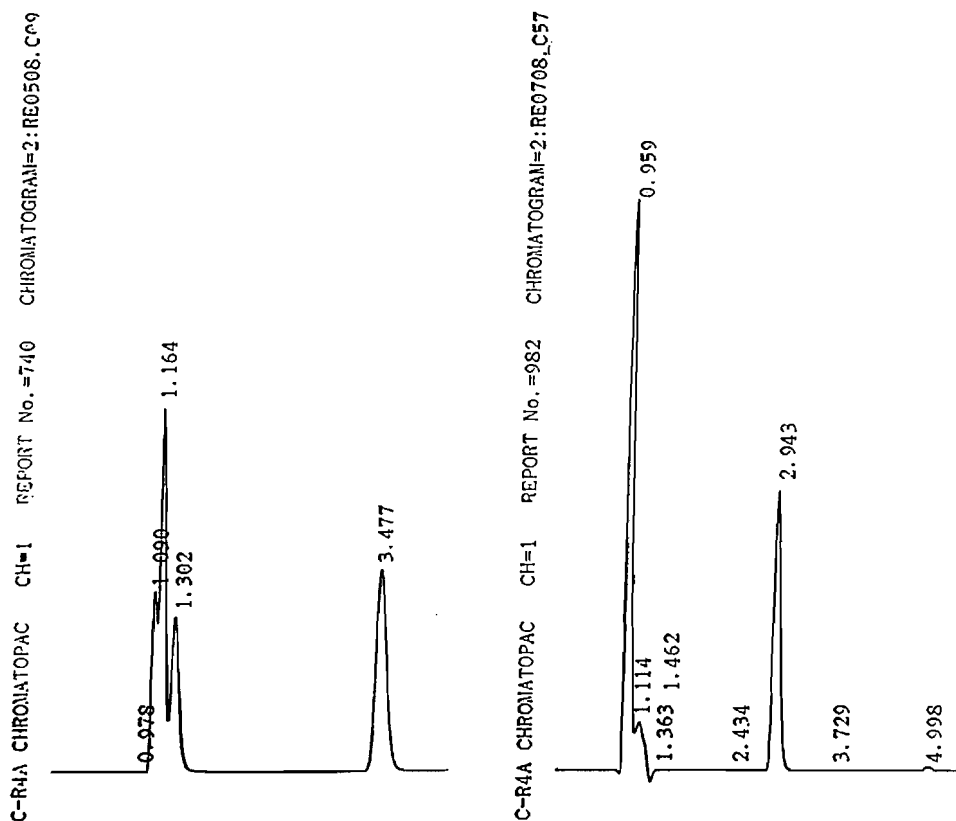
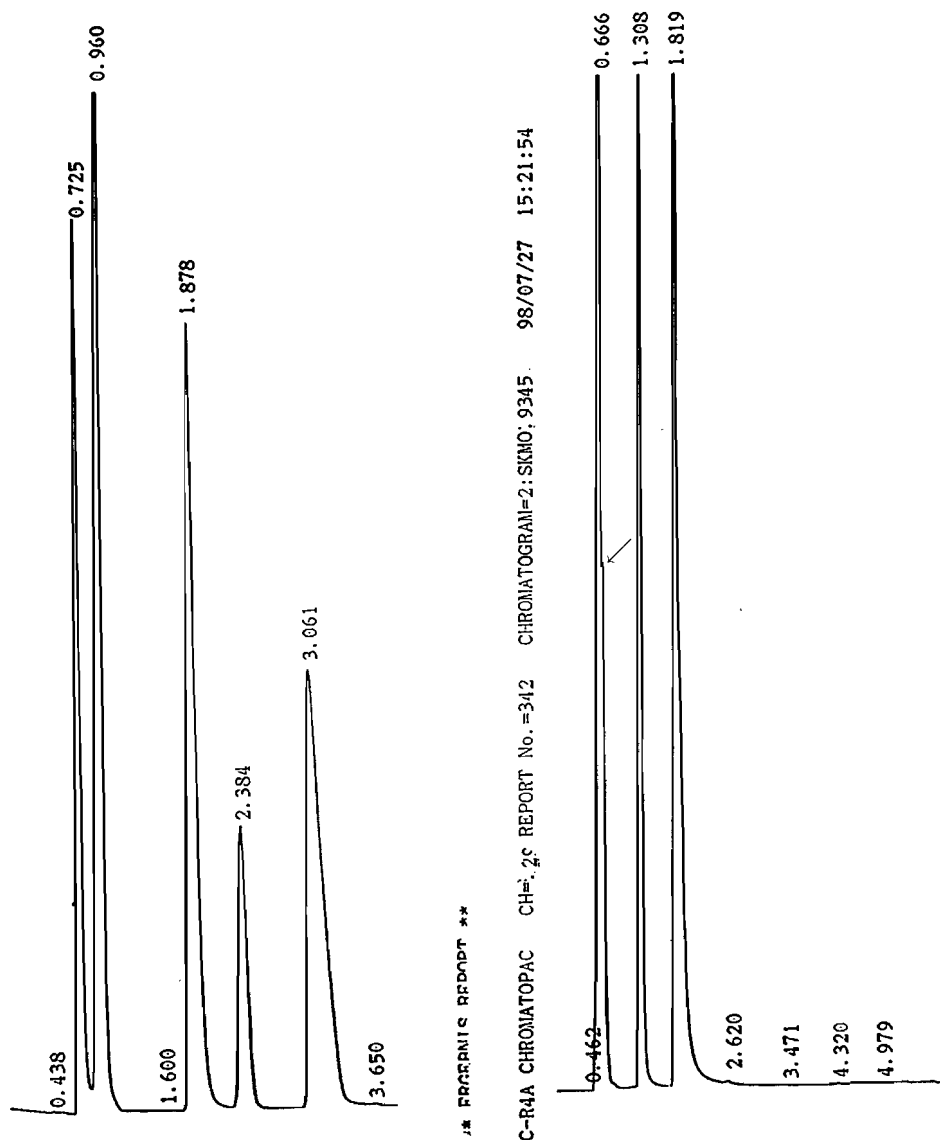

Figure 72-1. Selectivity in acid phosphate buffer/methanol (left) and in acid phosphate buffer/acetonitrile (right). Comments see text.
Figure 72-2. Selectivity in neutral water/methanol eluent (left) and in neutral water/acetonitrile eluent (right). Comments see text.
1. Methanol encourages polar/ionic interaction. As in RP chromatography, it is the polar rather than the non-polar interactions that matter for selectivity [2]. In eluents with the same elution strength, those containing methanol usually achieve better selectivity than those containing acetonitrile – at the price of longer retention times and more asymmetry in the peaks, as will be demonstrated in two examples. Figure 72-1 shows the injection of uracil, pyridine, benzylamine and phenol, in an acidic methanol/phosphate buffer on the left, in an acidic acetonitrile/phosphate buffer on the right. These fairly unsuitable eluents (strong bases in an acidic medium) have been chosen on purpose to test the selectivity of methanol and acetonitrile for polar analytes in difficult situations. In methanol the bases were at least partly separated, which does not happen in acetonitrile. Figure 72-2 shows the same separation in the neutral, on the left in methanol, on the right in acetonitrile. Again, the better selectivity of methanol is striking. Not only are polar contaminants almost completely separated from uracil while they are barely visible in acetonitrile (see arrow), but in phenol they can also be separated from benzylamine, which does not happen in acetonitrile. We can thus conclude that methanol achieves better selectivity while acetonitrile achieves a better peak symmetry. This can be observed for many categories of substances.